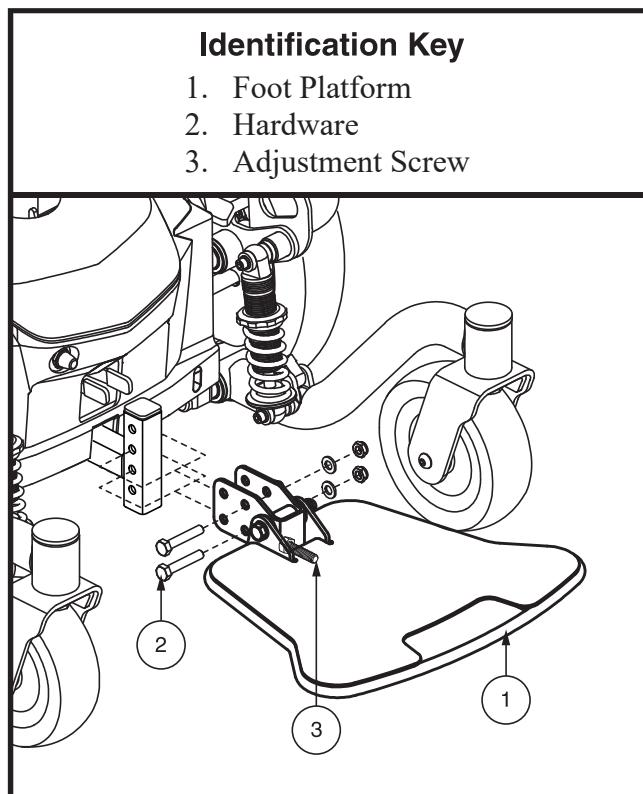

Figure 10. Foot Platform Adjustment
1. Remove the hardware from the foot platform bracket. **See figure 10.**
You can adjust the angle of the foot platform with a hex key. See **figure 10**.